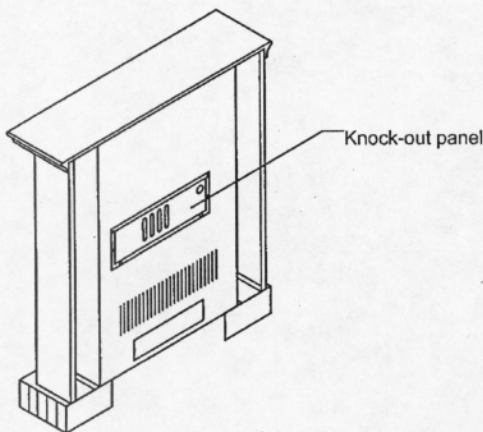

Figure 9-F Removing Stove Knock-out
1. From back of fireplace remove the center panel with two brackets at the four sides with a Philips head screwdriver (see Figure 9-F).